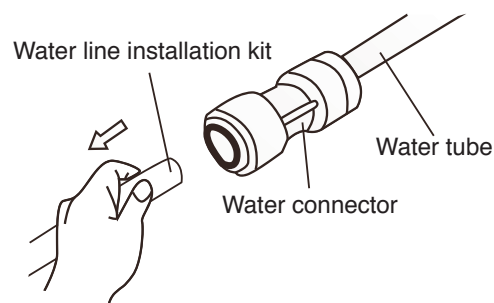

Figure 7
1. First, water tubes (supplied) insert into corresponding hole of water connector (supplied). See Figure 7.